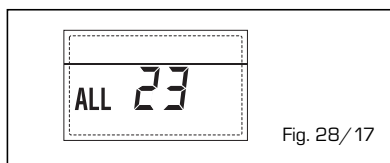

Fig. 28/17
**- ANOMALIA SONDA COLLETTORE SOLARE (S1) "ALL 24" (fig. 28/18)**